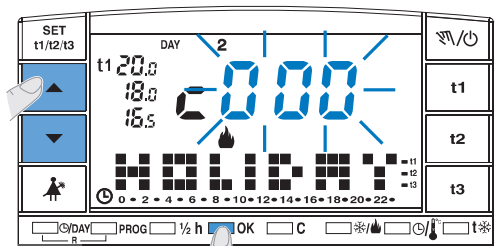

fig. 27
- Press **OK** to confirm (fig.27).